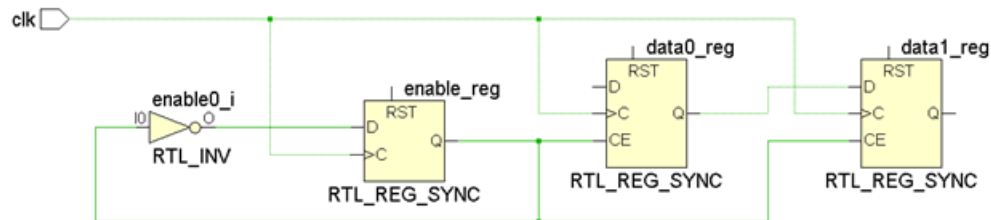

Figure 6-4: Registers Enabled Every Two Cycles
Figure 6-4, Registers Enabled Every Two Cycles, shows a path between two flip-flops that are enabled every two cycles. It is safe to define a Multicycle Path constraint on this path to indicate that: (1) the first edge of the destination clock is not active; and (2) only the second edge of the destination clock will capture a new data.
In the same example as Figure 6-4, Registers Enabled Every Two Cycles, after moving the setup check to the second capture edge, the hold check is automatically moved to the first capture edge (that is, one clock period before the setup check).